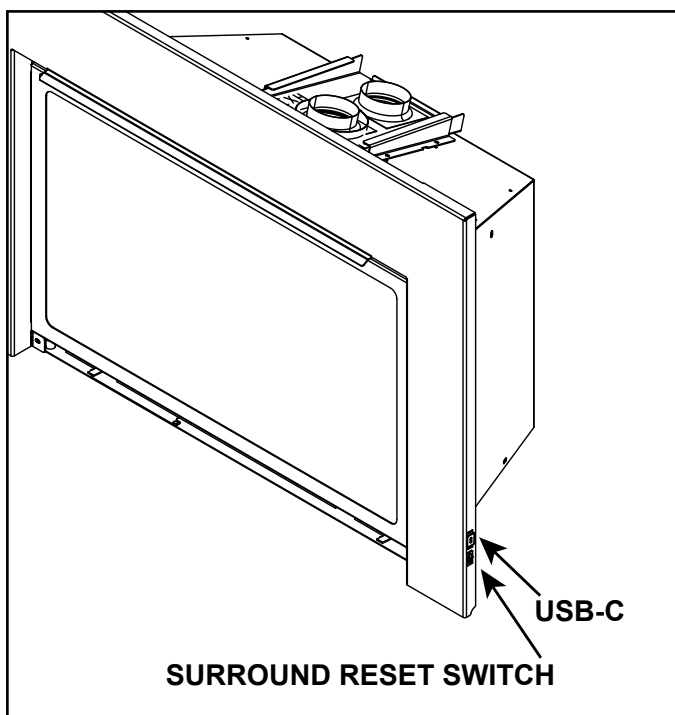

Figure 3.8 Surround Reset Switch
- Turn reset switch on side of the surround to the "OFF" position. See Figure 3.8.